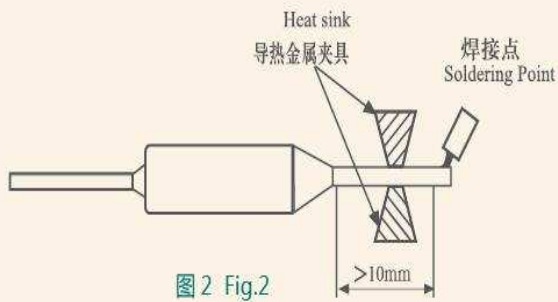

图2 Fig.2
- ④ 接点电阻必须控制以确保使电阻最低，不适当的连接会导致保险丝提前动作，接点必须抽样检验以确保连接处有合适的机械强度，不适当的连接点会导致接点电阻增大进而在接点产生高温，引起损伤封口树脂及其它部件，这可能使装置产生非正常开路或其它故障。
- ④ 连接方法
- B. 若温保要用焊锡或浸锡方式与线路连接时，焊锡或浸锡处最好距温保本体 10mm 以上，在 300℃ 状况下焊锡或浸锡时间应控制在 1 ~ 2 秒内为宜，若使用低于 113℃ 的保险丝尽可能不要采用焊锡或浸锡方式。无论是烙铁焊、电焊还是浸锡，都应尽量在短时间内完成，并且要一边焊接一边散热，防止由于受热而发生早断、开路。（见图 2）
- ④ Resistance of connections should be monitored to ensure minimal resistance. Improper connections or secure may result in premature failure of the TCO. Samples of joints should be inspected to ensure adequate mechanical bonding of lead to connection wires. Improper connections can cause damage to the seal or other parts which may result in shorting or nuisance tripping of the devices due to the generation of excessive heat at a faulty high resistance junction.
- ④ Connection method
- B. If soldering connection is necessary, TCO leads should be heat sink, soldering point should be at least 10mm away from the body of TCO and soldering time should be controlled within 1–2 seconds. It is recommended not to used soldering connection if the rating of TCO is less then T_f 113 ~C., to avoid damage to the TCO. (see Fig. 2)